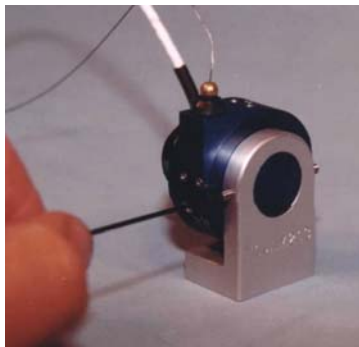

Figure 9.4- String potentiometer in mounting bracket
2. Fit the cylindrical protrusion of the string transducer through the hole of the String Potentiometer Mounting Bracket (T1UAM213). Orient the bracket so the body of the string potentiometer is nestled in the “L” of the bracket. Rotate the string transducer so the string is pointed in a direction that is away from the end containing the three mounting holes. Tighten the two #4-40 x 3/8" SSS {0.050} on each side of the holder just enough so the string transducer cannot be removed, but still may be rotated within the holder. This is shown in **Figure 9.4**.